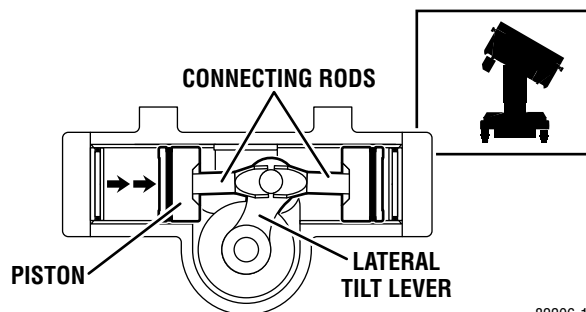

Figure 1-10. Lateral Tilt Cylinder Assembly
3. Lateral Tilt Assembly - The lateral tilt assembly consists of two cylinders, pistons and connecting rods. The connecting rods attach to the lateral tilt lever which connects to the table center column assembly. The cylinder housing attaches to the table top and is attached to the center column assembly by pivots. See figure 1-10. The pistons and connecting rods are attached to a non-movable surface. Therefore, when hydraulic fluid is pumped into one side, the cylinder housing itself moves around the lateral tilt lever causing the table top to tilt to one side. To tilt the table top in the opposite direction, fluid is pumped into the opposite cylinder.